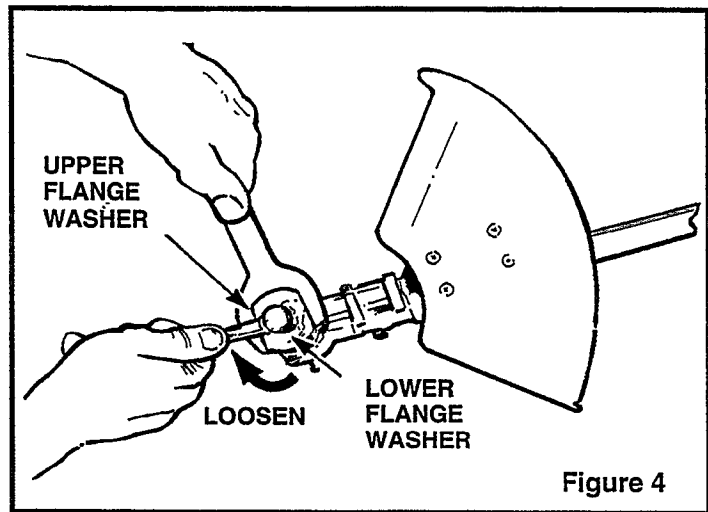

Figure 4
- Using the tools shown in **Figure 4**, remove the bolt (left hand thread), star washer, and flat washer at the bottom of the gearcase.
- Remove bolt (LH), star washer and small flat washer at the bottom of the gear case (**Figure 4**).